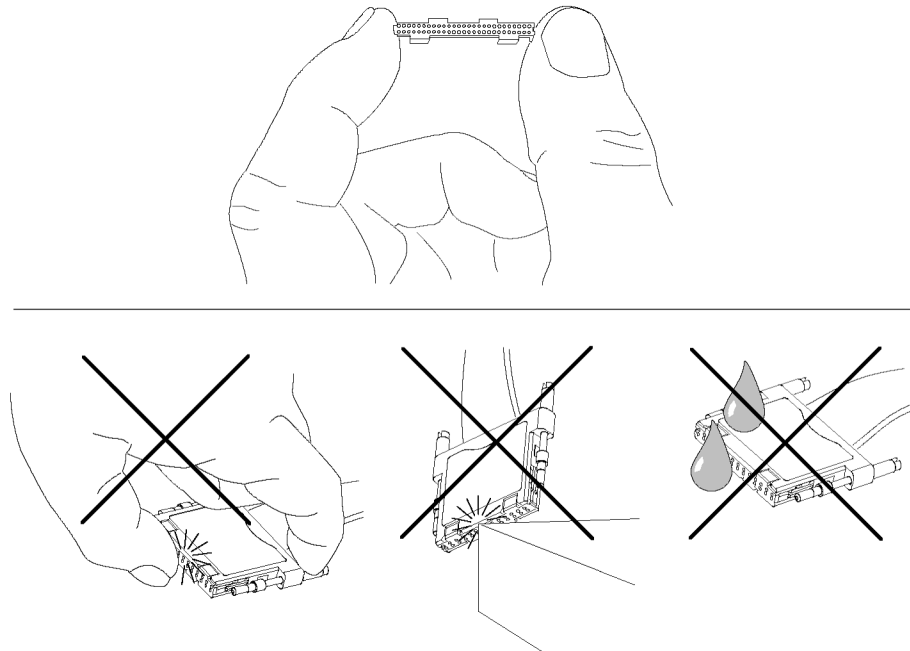

Figure 11: Proper handling of the interface clip
- Always handle the cLGA interface clips by the outer edges, being careful to avoid the contacts in the center. Do not touch the contacts with fingers, tools, wipes, or any other devices. (See Figure 11.)